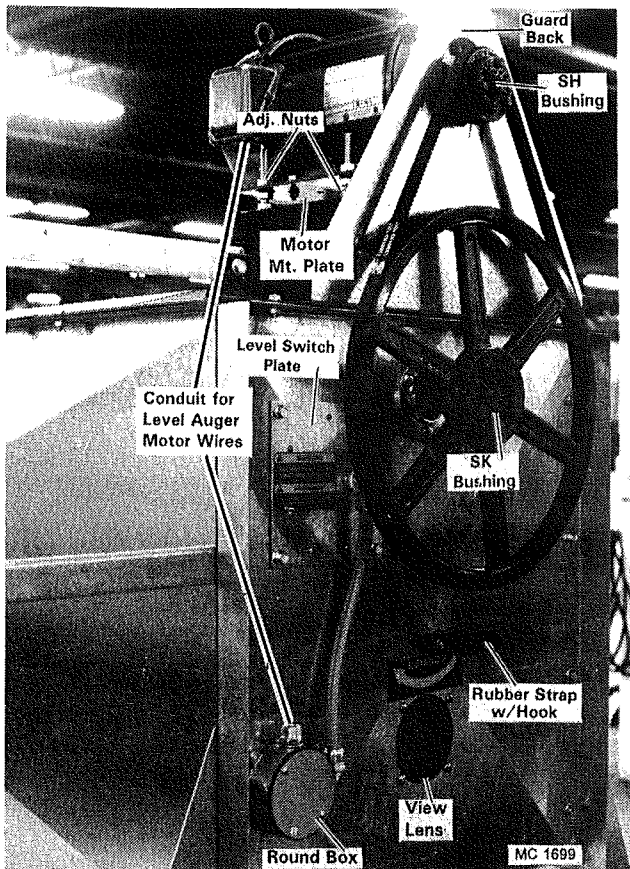

Figure 4 - Level Auger Drive
2. Put four 1/2-13 x 3 1/2" (12.7 x 89mm) full thread capscsrews in the level auger motor mount and lock in place with flanged locknuts. Thread a 1/2-13 (12.7mm) hex nut onto each capscscrew and install the motor mount plate with motor, see Figure 4.
3. Install the level auger guard back as shown in Figure 4. Install a 1/4" x 1/4" x 2" (6.35 x 6.35 x 51mm) key in the level auger shaft and a 1/4" x 1/4" x 1 3/4" (6.35 x 6.35 x 44.5mm) key in the 3HP motor shaft or 5HP motor shaft.
11. Install the rubber strap with hook to the front end panel as shown in Figure 4. Hook the level auger guard over the top of the guard back and secure with the rubber strap and hook.
12. Remove the level auger motor junction box cover and the round junction box cover. Connect the flexible conduit and wire assembly 36" long (91.5cm) to the motor and round box. See Figure 4.
1. Connect the flexible conduit to the bottom of the round junction box on the hopper front end panel. See Figure 4.
- A. Connect the (2) yellow wires imprinted TB24-B → LSW-C together, the (2) yellow wires imprinted LSW-NC- → LASW together, and the (2) white neutral wires LSW > TB5 together for Proximity Switch only!
- B. Connect the (2) black wires together, (2) red wires together and (2) blue wires together (blue used on three phase dryers only). There are (2) green motor ground wires that also must be connected.